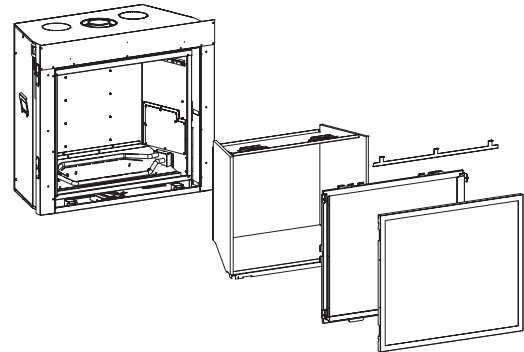

Figure 6
1. Remove the following items. **See Figure 6.**
9. Replace Glass Frame, Screen Barrier, and liners removed in Step 1, **Figure 6.**